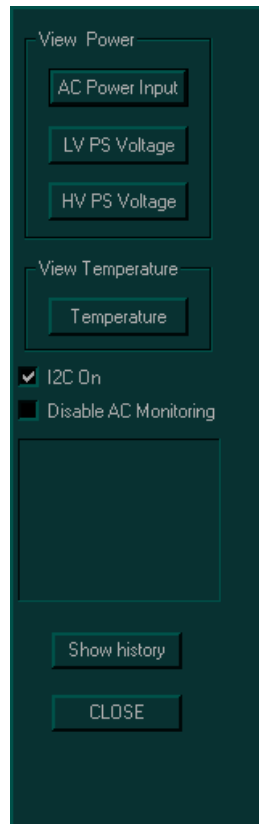

Figure 7-36 View Power Options
- 3) Trackball to the **Monitor** button and press **Select**. The *View Power* options are displayed, as shown in Figure 7-36 on page 7-60.